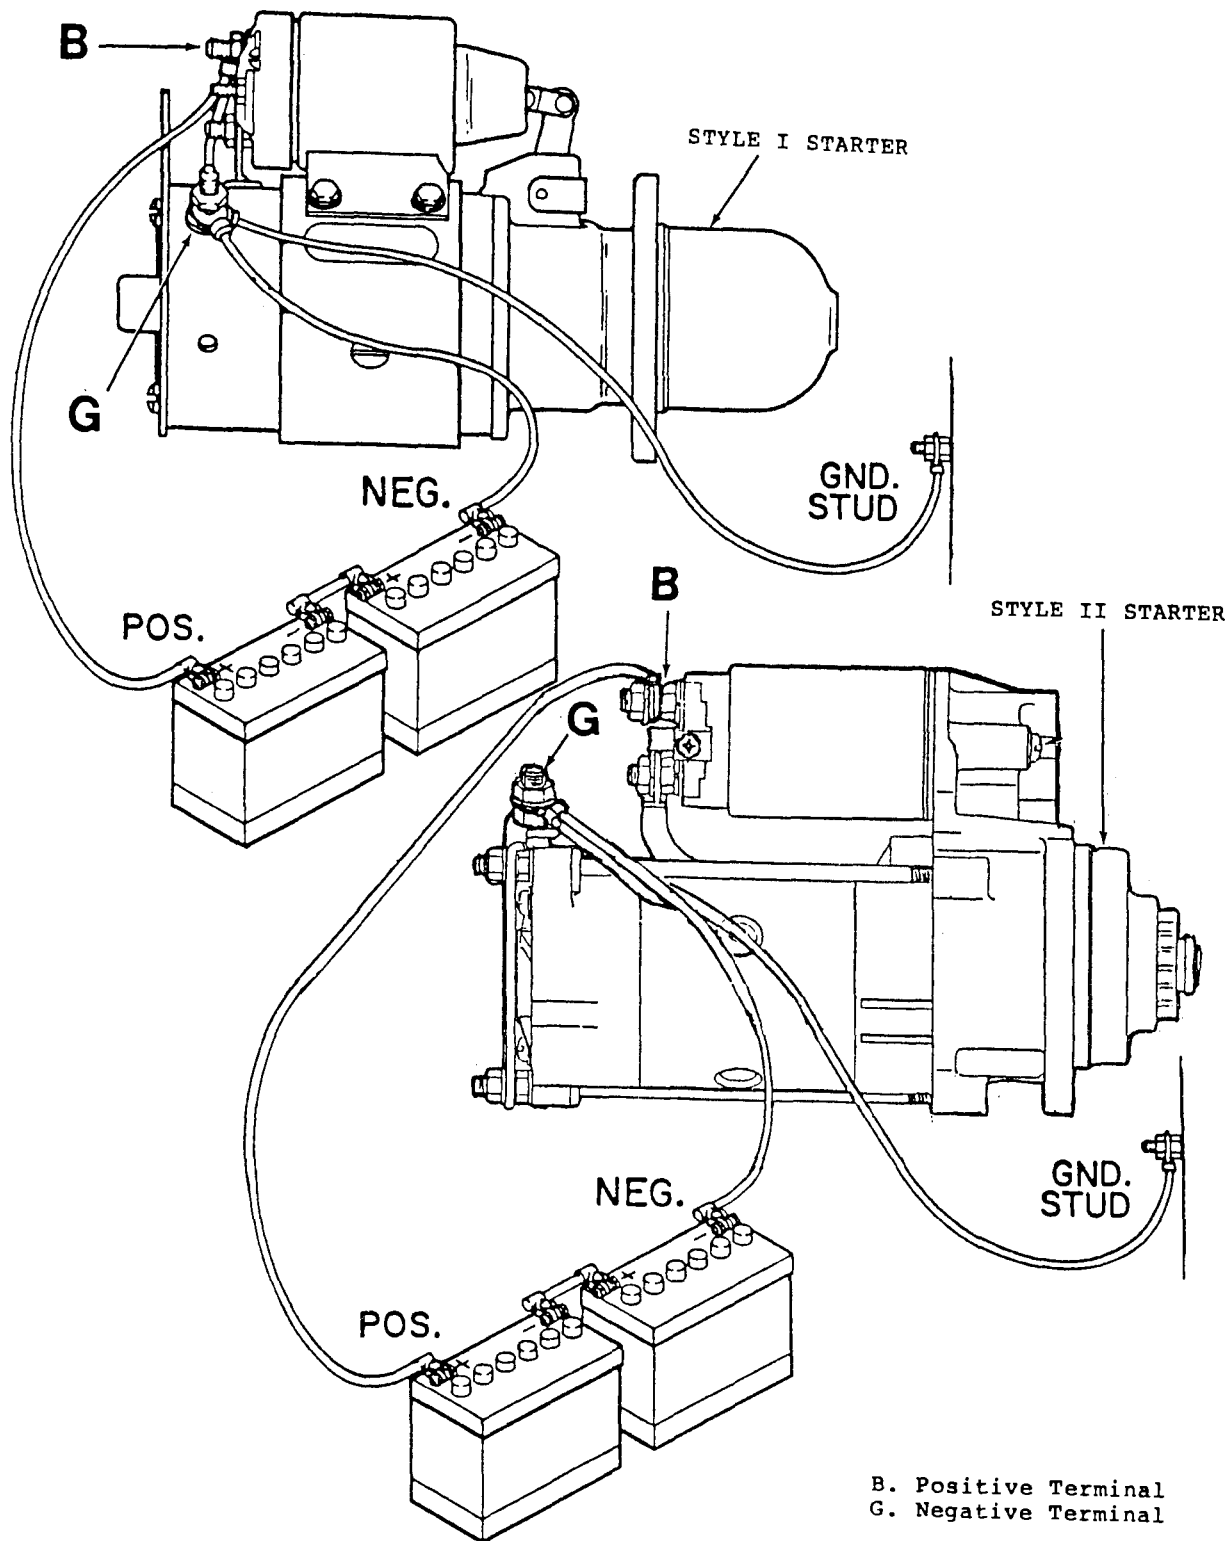

Figure 4-16. Installing Battery Cables.
Switch S2 in figure 4-16 must be closed during initial activation of solenoid to prevent in-rush currents from damaging the dc ammeter. Open switch S2 after solenoid activation to permit dc ammeter to function.
(3) Replace. Attach jumper cable between negative (-) terminal of one battery and positive (+) terminal of the other battery. Tighten terminal connectors securely. Attach positive battery cable to stud on starter solenoid. Attach negative battery cable to stud on starter case (see figure 4-16). Attach positive cable to positive terminal on one battery and negative cable to negative terminal on the other battery. Tighten terminal connectors securely.
negative battery cable (-) to the ground terminal "G" of the starter. See figure 4-16. Attach positive cable (+) to positive terminal on one battery and negative cable (-) to negative terminal on the other battery. Tighten all terminal connectors securely.